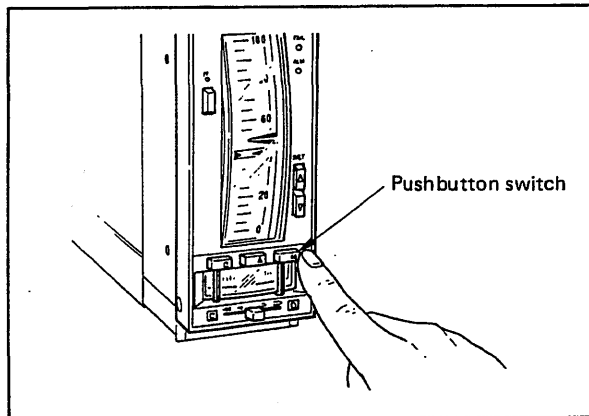

Figure 5-3-1. Selecting the Operation Mode.
- (1) Manual operation by manual control lever.
- (a) Of the **C** **A** **M** operation mode transfer switches, select **M**. (The lamp inside the pushbutton lights.) (Figure 5-3-1).
The control mode of the controller can be changed freely by depressing the **C** **A** **M** pushbutton switches. (Figure 5-3-1). (Note, however, that direct transfer from **M** to **C** modes is not allowed.) Transfer between modes is bumpless, and no balancing operation is needed.